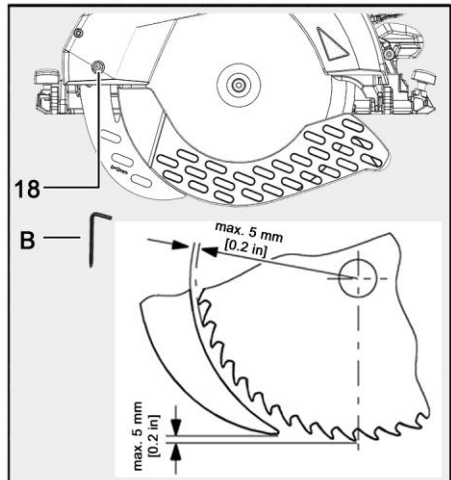

Fig. 13: Distance riving knife to saw blade
2. Using the Allen key (B) provided, turn the screw (18) **counterclockwise** to adjust.
- Do not exceed the maximum distance to the saw blade (see Fig. 13).
4. Using the Allen key (B), turn the flange screw (18) **clockwise** to tighten it.